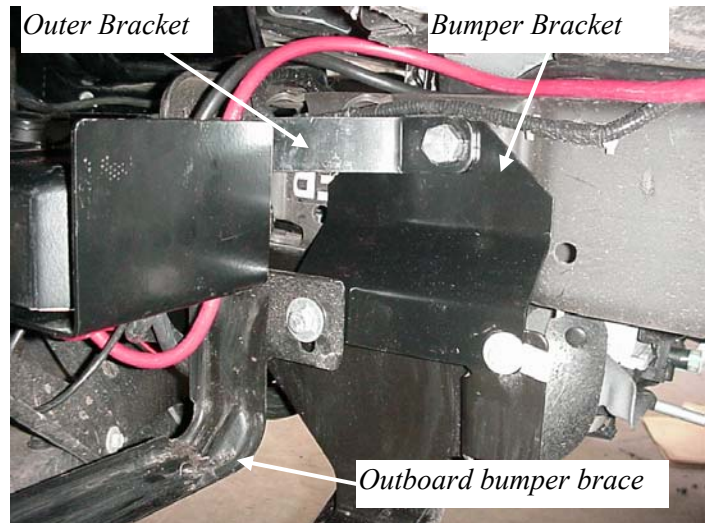

Figure 11 Bumper brace reinstalled
25. Re-install the bumper end braces. Use the original bolts at the bumper. Use 7/16 x 1" bolts and washers to attach to the Bumper Brackets. Tighten the hardware. **Figure 11**